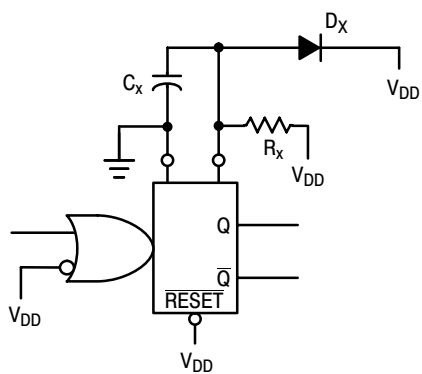

Figure 9. Use of a Diode to Limit Power Down Current Surge
6. If C_X > 15 μF, Use Discharge Protection Diode D_X, per Figure 9.